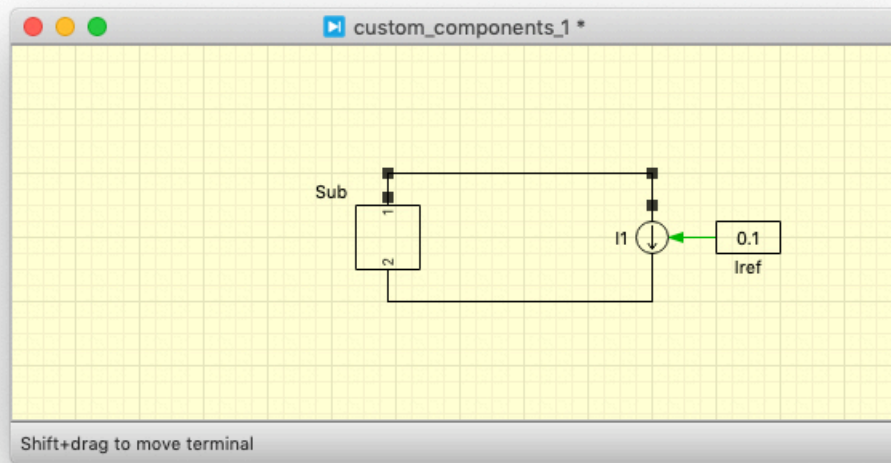

Figure 3: Reposition the terminals by holding down Shift and dragging the terminals with the left mouse button
- 2 To reposition the subsystem terminals, hold down the **Shift** key and left-click on the connecting wire just outside the subsystem mask border. A hand symbol will appear, indicating that the terminal can be shifted. Reposition the terminals so that your PV subsystem looks similar to that shown in Fig. 3. You can then drag the subsystem name to the upper left corner.